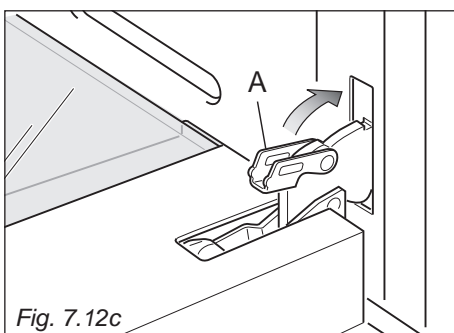

Fig. 7.12c
4. Fully close the levers "A" on the left and right hinges, as shown in the figure 7.12c.